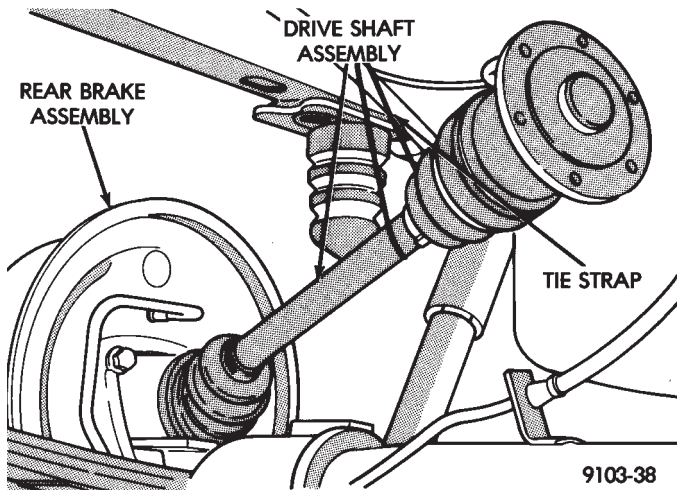

Fig. 3 Support Half Shafts
(2) Support inner side of half shaft with mechanics wire or equivalent (Fig. 3).